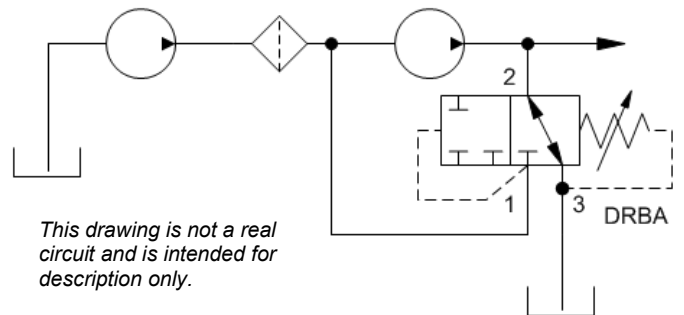

Figure 1.
- Normally open 2-way, three port cartridges are primarily used for unloading functions in the absence of a remote pressure signal. (See Figures 1 and 2.)